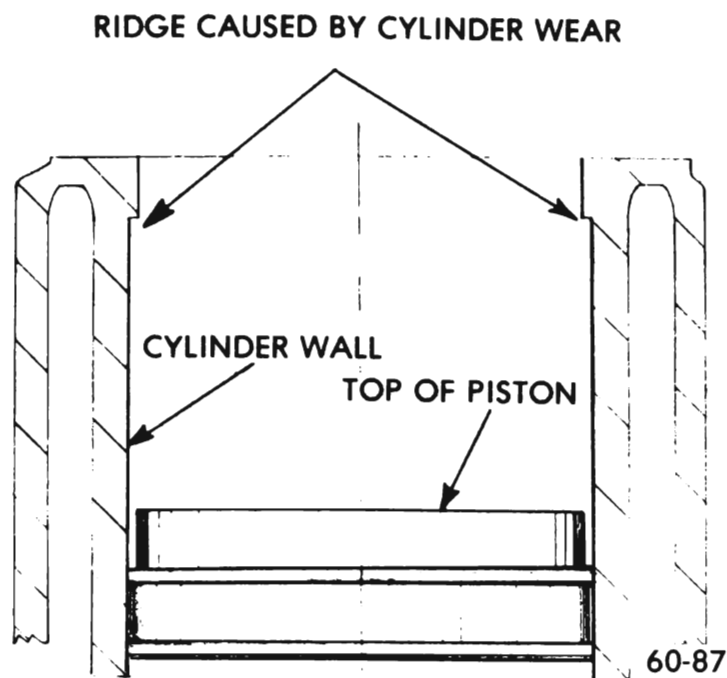

Figure 60-37 - Ridge Formed by Rings at Top of Travel
2. Examine the cylinder bores above the ring travel. If bores are worn so that a shoulder or ridge exists at the top of the cylinder, remove the ridges with a ridge reamer to avoid damaging rings or cracking ring lands in pistons during removal. See Figure 60-37.